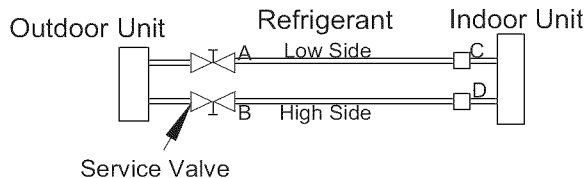

Fig. 34 - Service Valve
1. Completely tighten flare nuts A, B, C, D, connect manifold gage charge hose to a charge port of the low side service valve. (See Fig. 34.)